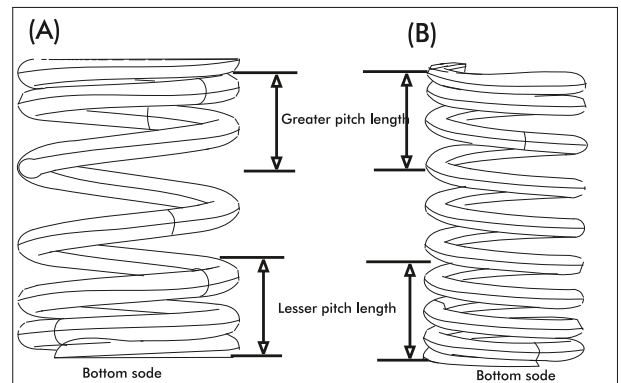

Fig. 3.149
- While assembling the spring valve outer (A) and spring valve inner (B), locate the coil with lesser pitch towards seat valve spring (downwards). (Fig. 3.149)